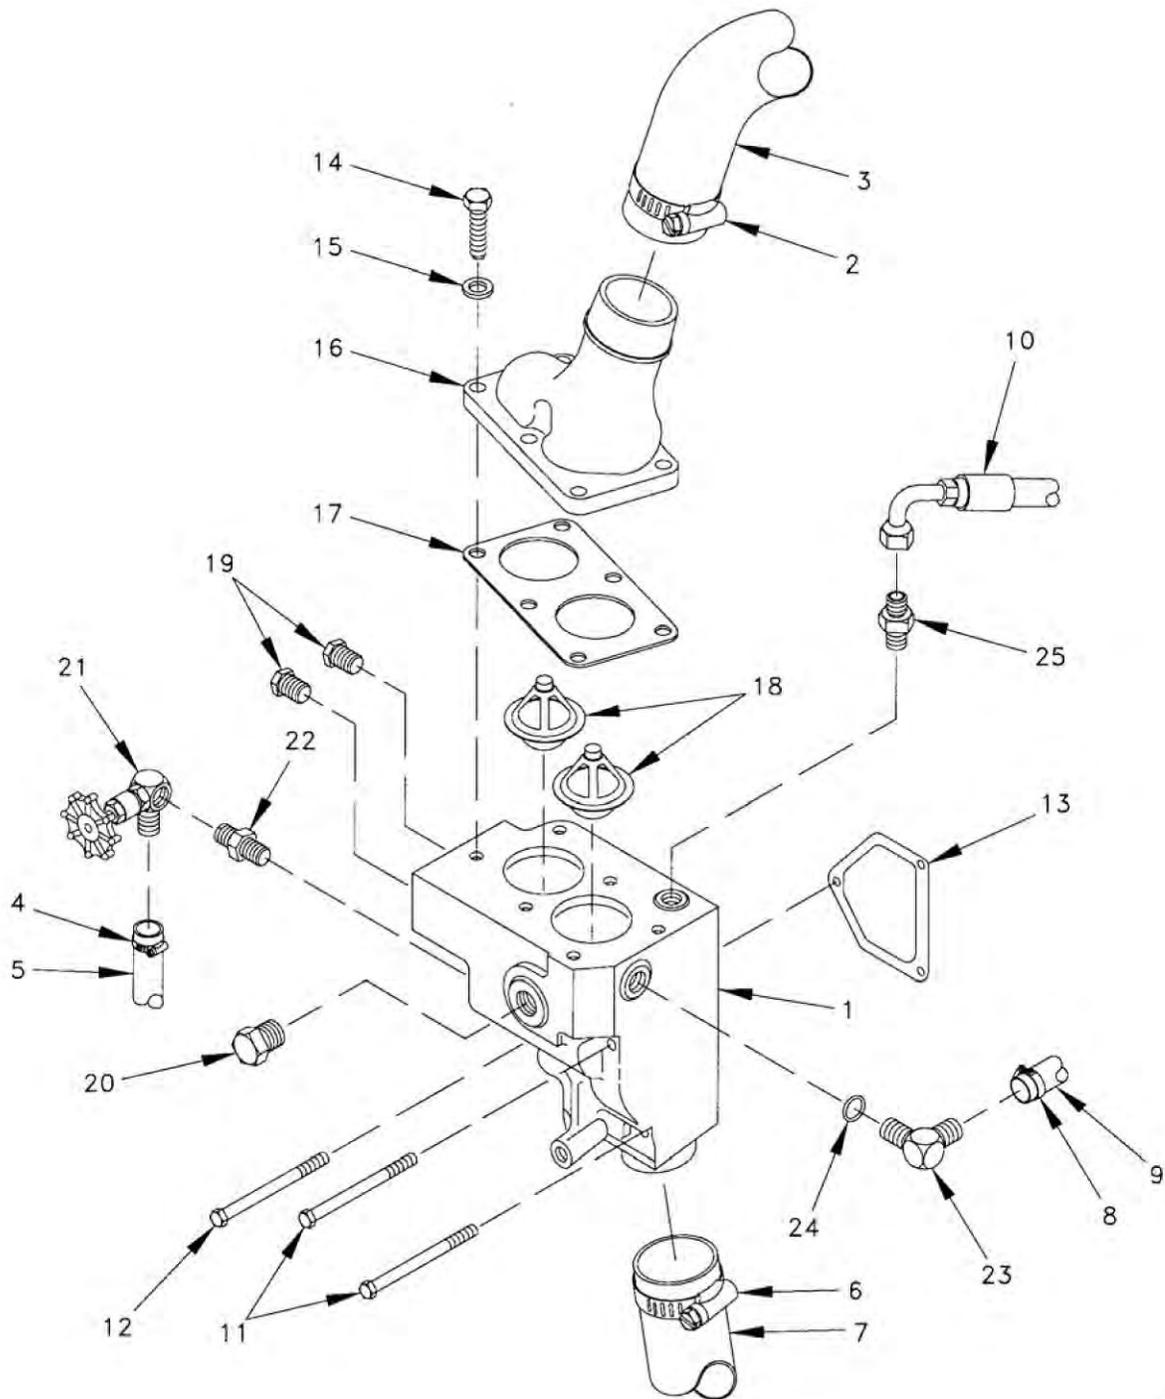

Figure 1. Thermostat Housing.
1. Scrape all old gasket material from thermostat housing (Figure 1, Item 1), thermostat elbow (Figure 1, Item 16), and mating surface of engine block.
2. Apply adhesive to threads of connector (Figure 1, Item 25) and install connector (Figure 1, Item 25).
3. Apply adhesive to thermostat housing side threads of elbow (Figure 1, Item 23), and install O-ring (Figure 1, Item 24) and elbow (Figure 1, Item 23).
4. If optional winterization kit is installed, apply adhesive to threads of connector (Figure 1, Item 22), and install connector (Figure 1, Item 22) and valve (Figure 1, Item 21).
5. Apply adhesive to threads of plug (Figure 1, Item 20) and install plug (Figure 1, Item 20).
6. Install two plugs (Figure 1, Item 19).
7. Apply adhesive to both sides of gasket (Figure 1, Item 17). Install two thermostats (Figure 1, Item 18), short end up, gasket (Figure 1, Item 17), thermostat elbow (Figure 1, Item 16), six washers (Figure 1, Item 15), and screws (Figure 1, Item 14). Tighten screws (Figure 1, Item 14) evenly.
1. Install gasket (Figure 1, Item 13), thermostat housing (Figure 1, Item 1), two screws (Figure 1, Item 11), and screw (Figure 1, Item 12). Tighten screws.
2. Connect hose (Figure 1, Item 10).
3. Connect hose (Figure 1, Item 9) and tighten hose clamp (Figure 1, Item 8).
4. Connect hose (Figure 1, Item 7) and tighten hose clamp (Figure 1, Item 6).
5. Connect hose (Figure 1, Item 5) and tighten hose clamp (Figure 1, Item 4).
6. Connect hose (Figure 1, Item 3) and tighten hose clamp (Figure 1, Item 2).